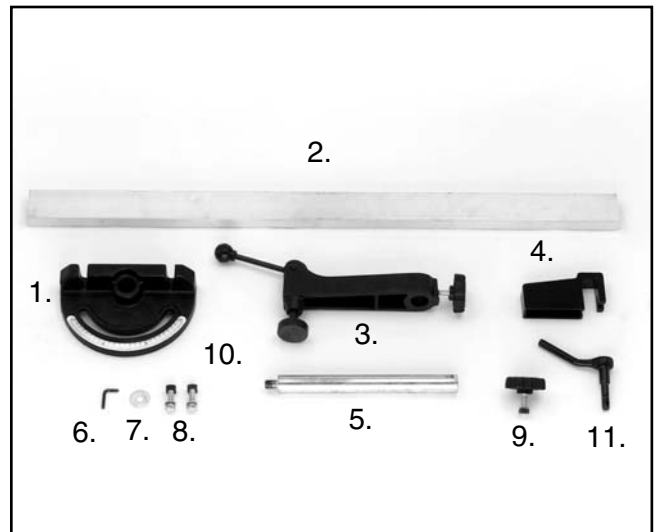

Figure 2. Miter Gauge Kit.
- Miter Gauge Kit (**Figure 2**)